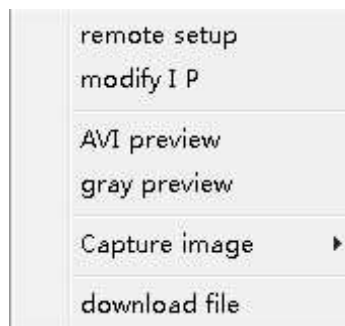

Figure 5-3
**2) Remote operate:** It can operate the thermal imaging camera multi-functionally, such as Remote setup, Modify IP, AVI preview, Gray preview, Capture image and Downloads file. As shown in the figure 5-3.